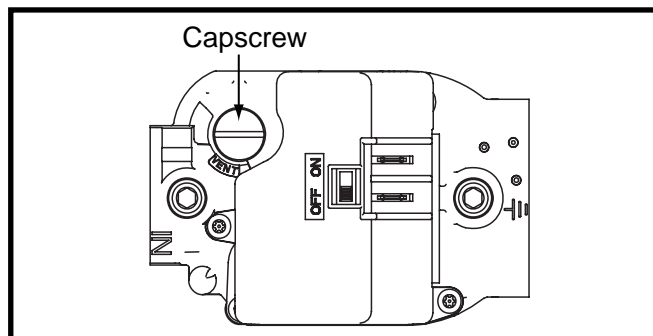

Figure 30. Regulator Capscrew
- b.) Remove the regulator capscrew (Figure 30) from the INLET side of the regulator.